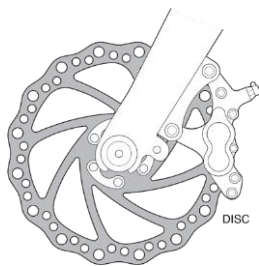
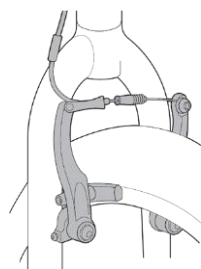

fig. 14
fig. 15
1. If your bike has rim brakes, disengage the brake's quick-release mechanism to increase the clearance between the tire and the brake pads (see Section 4.C, figs. 14 through 18, p. 45).
1. If you have a multi-speed bike with a derailleur gear system: shift the rear derailleur to high gear (the smallest, outermost rear sprocket). If you have an internal gear rear hub, consult your dealer or the hub manufacturer's instructions before attempting to remove the rear wheel. If you have a single-speed bike with rim or disk brake, go to step (4) below.
2. If your bike has rim brakes, disengage the brake's quick-release mechanism to increase the clearance between the wheel rim and the brake pads (see Section 4.C.1, figs. 14 through 18, p.42).
3. Some bicycle brakes, such as disc brakes (fig. 14) and linear-pull brakes (fig. 15), are extremely powerful. Take extra care in becoming familiar with these brakes and exercise particular care when using them.
Most rim brakes have some form of quick-release mechanism to allow the brake pads to clear the tire when a wheel is removed or reinstalled. When the brake quick release is in the open position, the brakes are inoperative. Ask your dealer to make sure that you understand the way the brake quick release works on your bike (see figs. 14, 15, 16, 17, & 18) and check each time to make sure both brakes work correctly before you get on the bike.